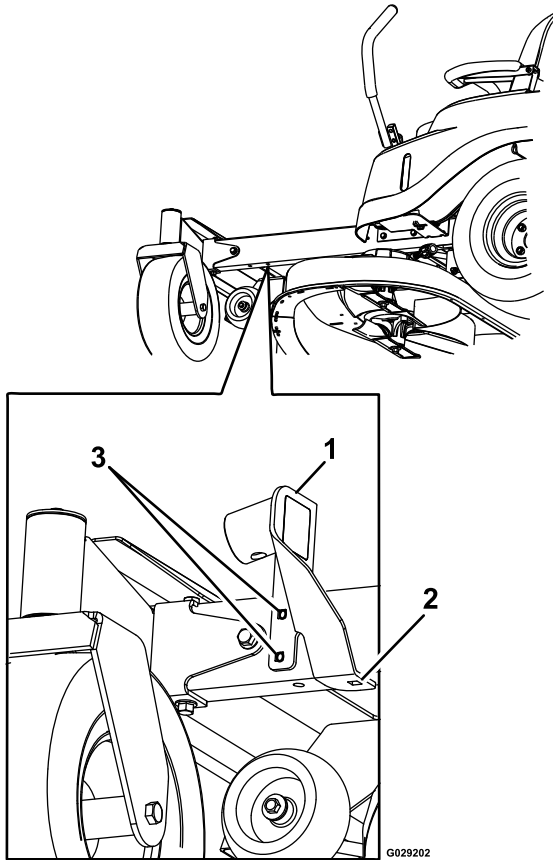

Figure 3
- A. Locate the two holes under the frame on the front left side as shown in Figure 3.